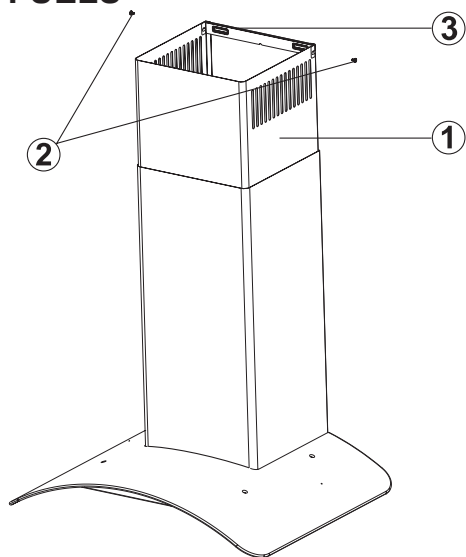

*Fig. 11: PLASTIC FLUE CONNECTION*
- Attach the plastic flue (1) in the product body (2), and rotate it in the arrow direction (Fig. 11).